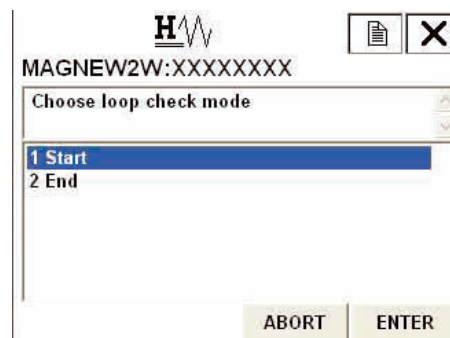

Figure 7-74
2. Once the display as shown Figure 7-73 appears, make sure that the loop is removed from the automatic control. Then press “OK” to execute the output check with the calibrator. Then Figure 7-74 is displayed.